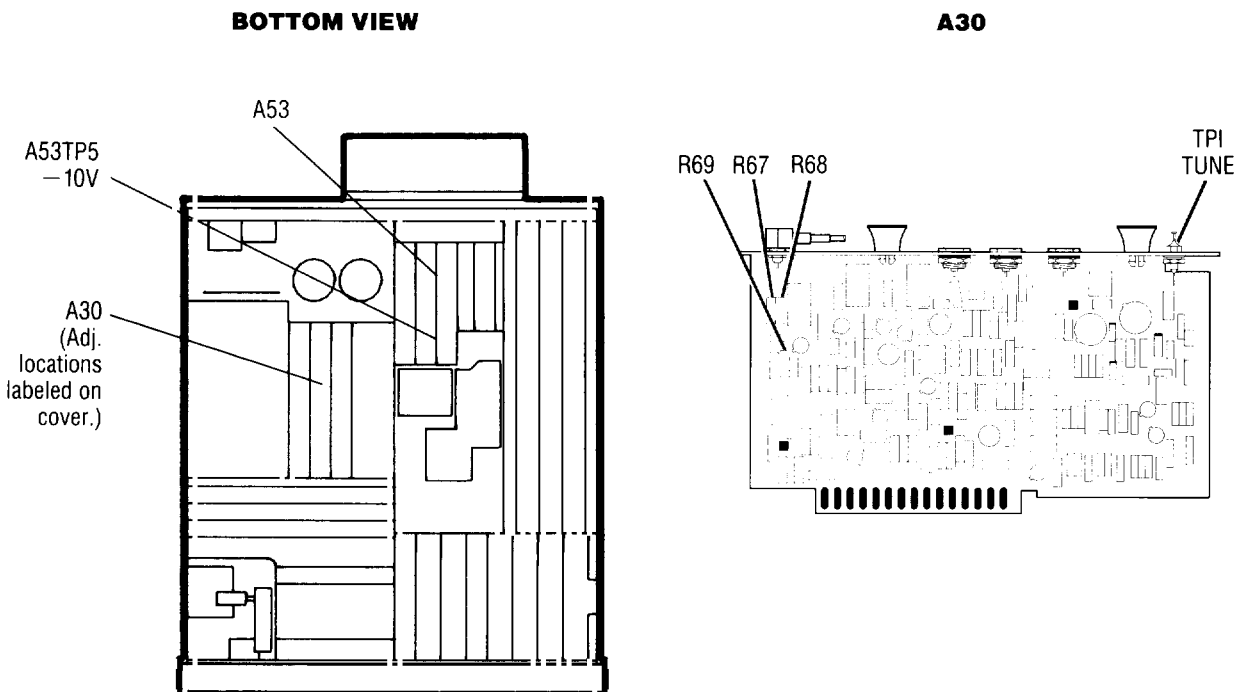

Figure 5-6. Location of A30 100 MHz VCXO Adjustments
18. If the amplitude of the 400 MHz signal is not within 3 dB of -10 dBm, note the amplitude and change the values of A30R67, A30R68, and A30R69 as necessary to adjust the amplitude to -10 dBm $\pm$ 3 dB. Table 5-5 contains a list of attenuations in 1 dB steps and the corresponding values for the attenuator network resistors to adjust the level to -10 dBm. Refer to Figure 5-6 for location of resistors.